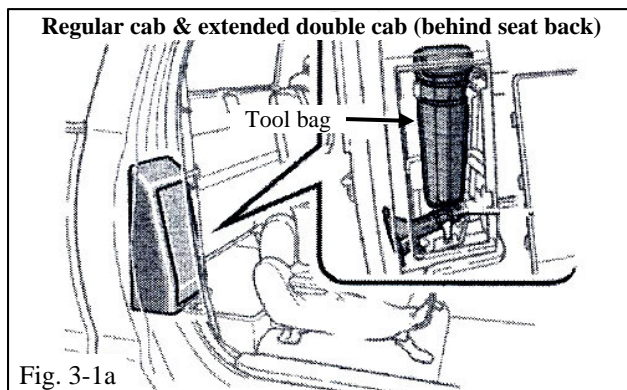
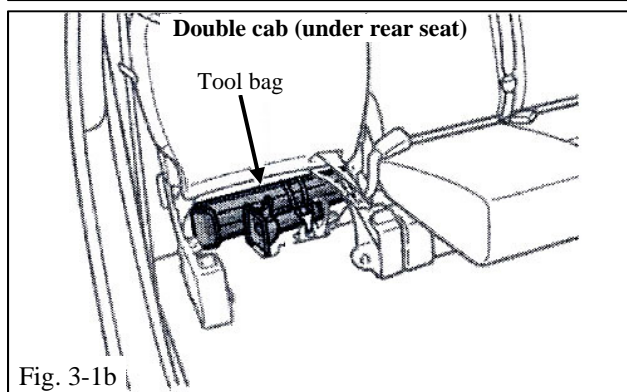

Fig. 3-1a
Fig. 3-1b
- (b) Place the jack handle, extension rod and key into the tool bag and return the bag to the vehicle storage area (Fig. 3-1a or Fig. 3-1b).